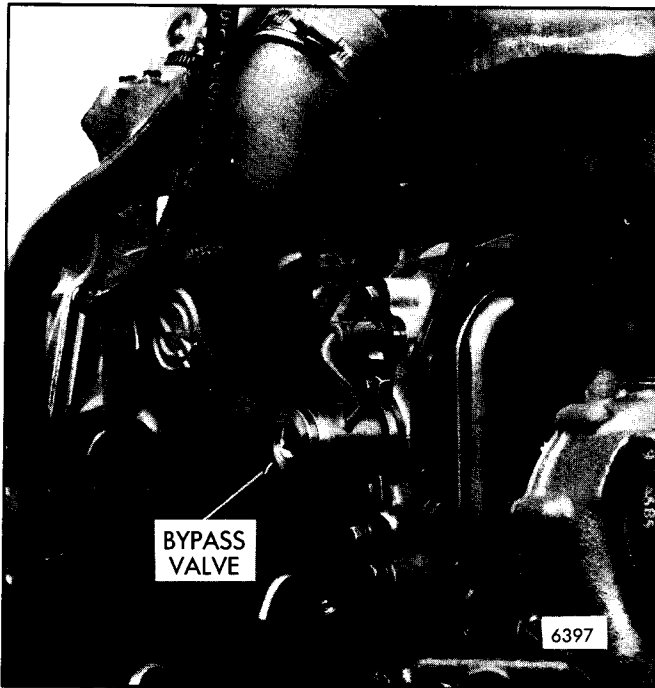

Fig. 22 - Typical Bypass Blower Valve Installation (In-Line Engine)
- d. Secure the bypass valve to the blower with clamps and bolts (Fig. 22).